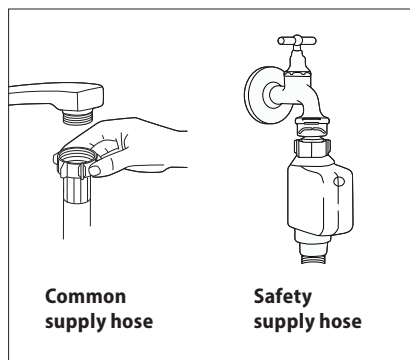

Fig. 19
4. Connect the inlet hose to the water supply according to Fig. 19.
- Connect the inlet hose to the tap with 3/4" thread (Fig. 19). Make sure that the inlet hose is not bent, crushed or entangled.